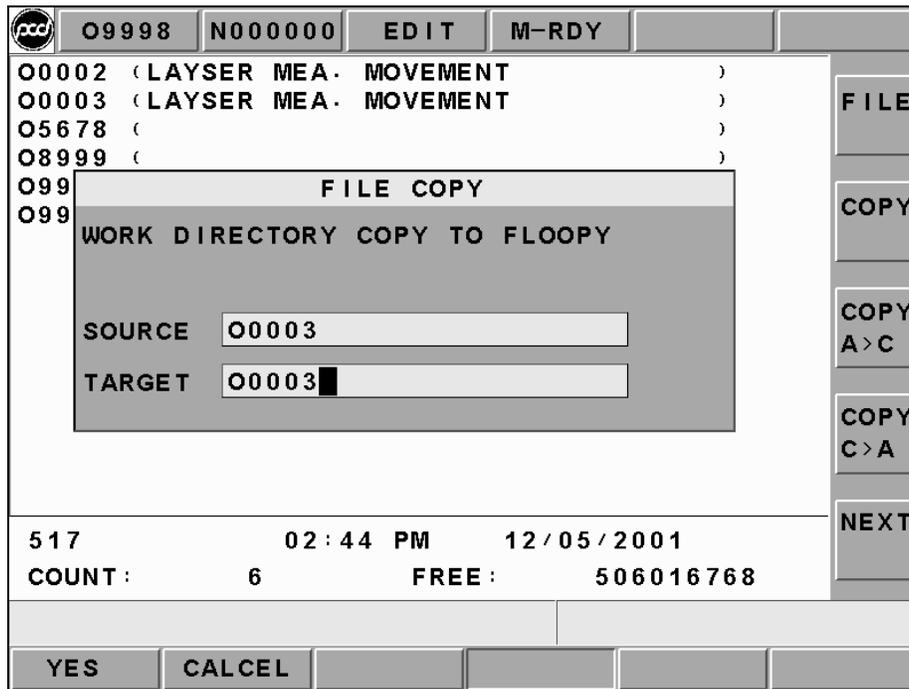

Figure 2.5-16 Target File Name Key-In Screen
2. Selecting a wanted copy file and then key-in the source file name and the destination file name from a popup key-in dialog box. See Figure 2.5-16. The destination file name is defaulted as the source file name. If users do not want to use the default file name, then only need to key-in the wanted file name directly and then pressing confirm button to copy the source file form A drive to the current working menu.